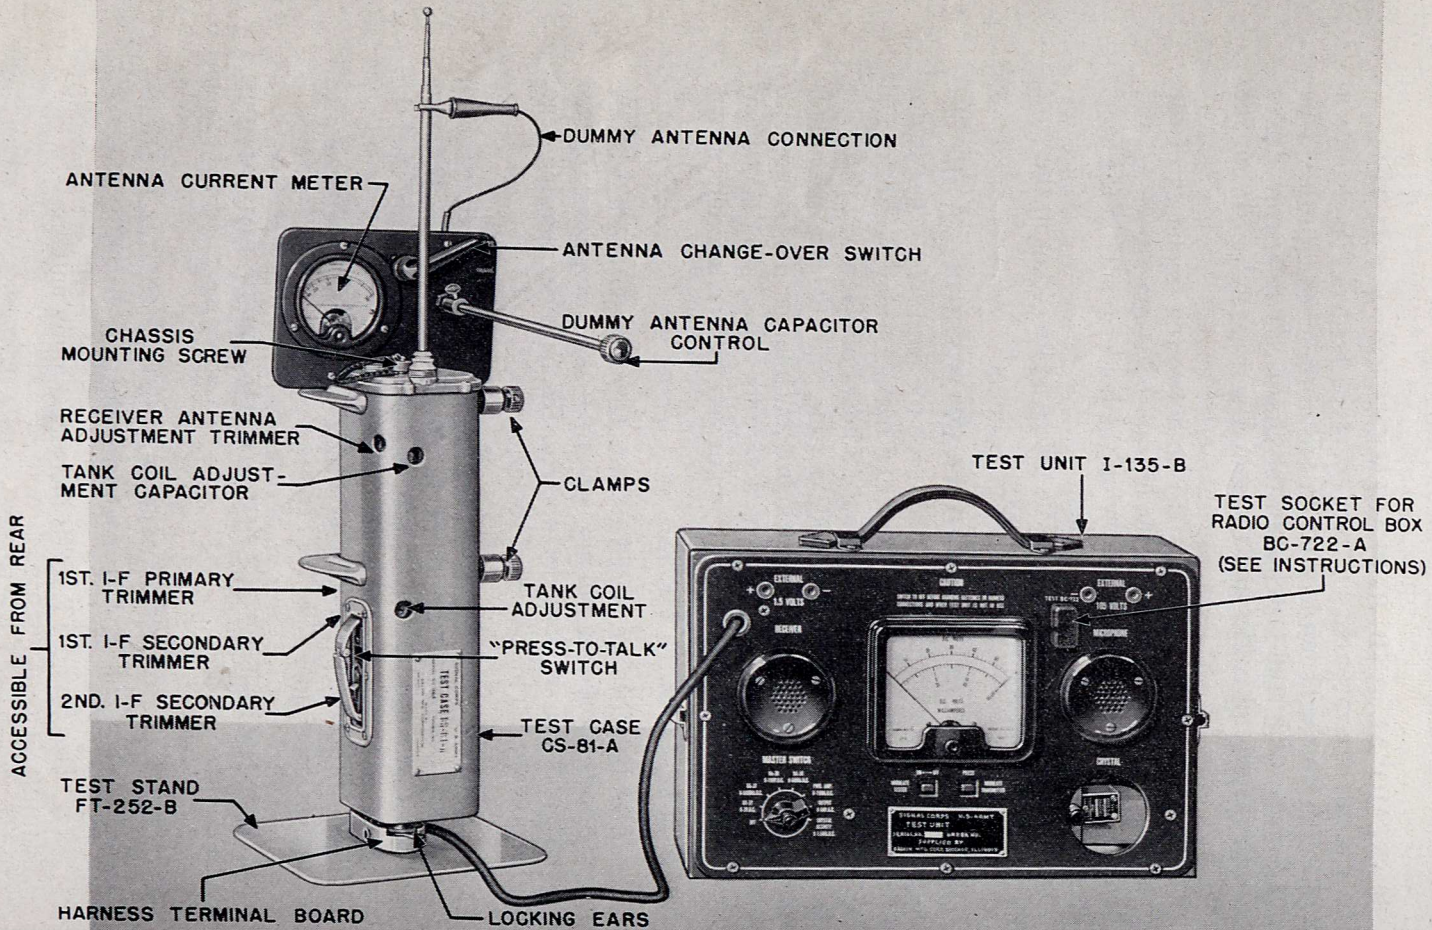

FIG. 12. TEST EQUIPMENT IE-17-B, SET-UP FOR RECEIVER ALIGNMENT
b. Test Case CS-81-A.—As the tuning adjustments are inaccessible because of their location on the chassis, which is covered by the case or housing, special apparatus (Test Equipment IE-17-B) is required to make these adjustments. See Fig. 12. The Test Case CS-81-A is similar to a chassis housing except for the holes that have been provided to permit access to the adjustments. This apparatus permits tuning the set under conditions identical to those of normal operation. The tuning adjustments should not be made on the set without the housing around the chassis, because the set would become detuned when inserted into the housing. Detuning or misalignment would result from the additional capacity introduced into the circuit by the housing.
(3) Turn the Master Switch to "Output." A reading should now be indicated on the meter and a 1000 cps tone should be heard in the earphone of the test unit. If the set is badly out of alignment the r-f signal picked up may not be sufficient to give a readable measurement. For such a condition, connect a short piece of wire to the r-f Output terminal of the test unit. This will act as an antenna and increase the radiation. Varying the position and length of this wire will control the strength of the signal radiated.
(4) The location of the tuning adjustments on the radio chassis are shown in Figures 12, 15 and 16. With the screw driver turn the "Receiver Antenna Trimmer" clockwise. Notice the effect of this adjustment on the output meter reading. If the meter reading increases, continue to tighten the screw until a maximum reading is obtained. If the reading decreases, turn the screw counter-clockwise until a maximum reading is obtained. Be careful not to tighten the screw after it begins to turn hard as the threaded base of the trimmer will be stripped. The setting of the trimmer screw for maximum audio output should fall somewhere between the point of hard turning and that of a minimum pressure on the upper plate of the trimmer. If a maximum is not reached in these limits of the screw adjustment, try another antenna coil.